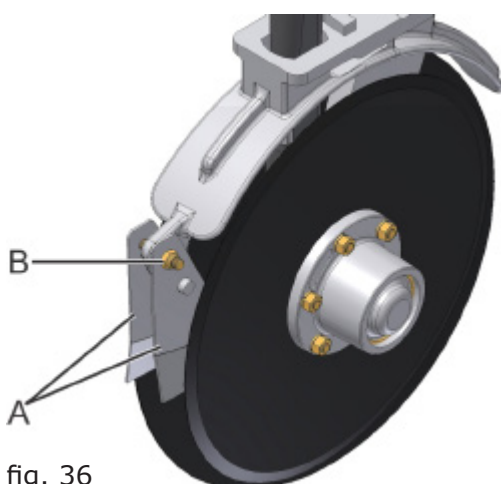

fig. 36
Periodically adjust the cleaners (A) (fig. 36) of the dephased seed and manure double disks. To adjust the cleaners, tighten the nut and bolt (B). Adjust it so that it maintains efficient cleaning. Do not tighten it too much so as not to cause excessive wear in the cleaners (A).